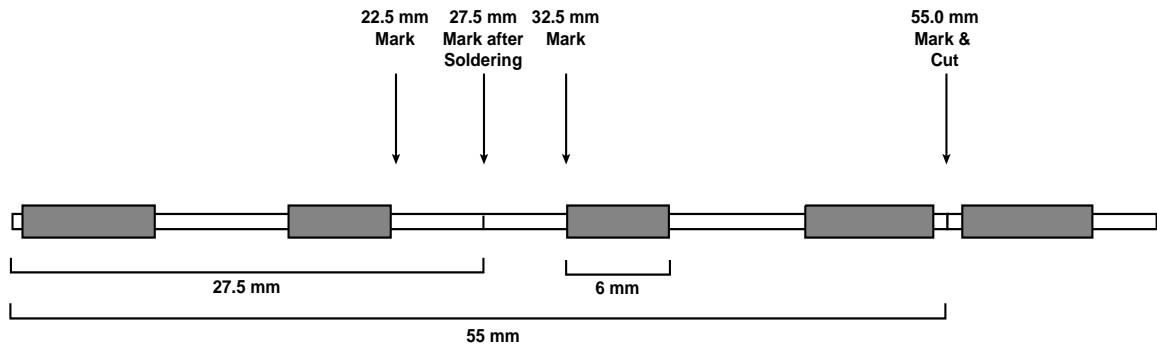

Figure 2 Marks for heat-shrink and cutting
3. Using the calipers and fine tip marker, mark 22.5 mm and 32.5 mm from the heat-shrink bound end of the bundle, as shown in figure 2.
4. Align each piece of 6 mm heat-shrink tubing with the appropriate mark, as shown in figure 2. Attach each piece independently by applying heat.
6. Attach the two remaining 10 mm pieces of heat-shrink tubing on either side of this line, allowing a 1-2 mm gap between them with the line still visible, as shown in figure 2.